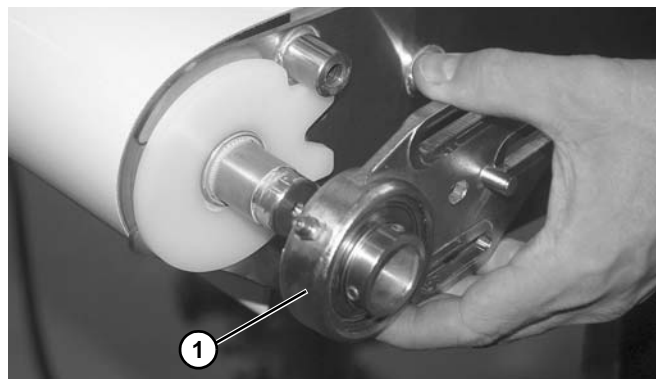

Figure 125
6. Remove the headplate (**Figure 125, item 1**).